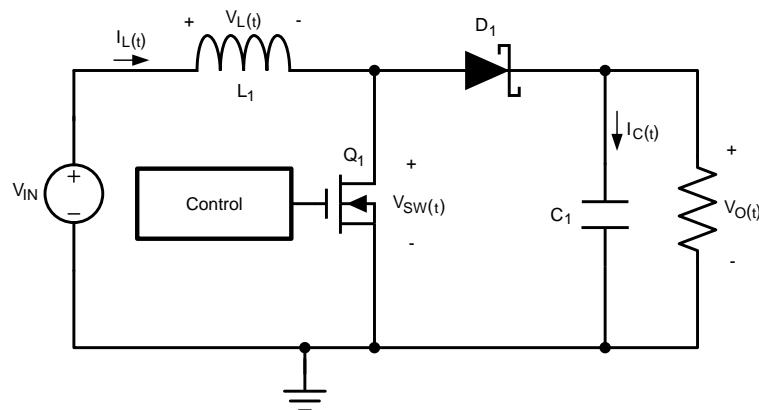

Figure 13. Simplified Schematic
The LM2735 is a constant-frequency PWM boost regulator IC that delivers a minimum of 2.1 A peak switch current. The regulator has a preset switching frequency of either 520 kHz or 1.6 MHz. This high frequency allows the device to operate with small surface mount capacitors and inductors, resulting in a DC-DC converter that requires a minimum amount of board space. The LM2735 is internally compensated, so it is simple to use, and requires few external components. The device uses current-mode control to regulate the output voltage. The following operating description of the LM2735 will refer to the simplified internal block diagram (Functional Block Diagram), the simplified schematic (Figure 13), and its associated waveforms (Figure 14). The LM2735 supplies a regulated output voltage by switching the internal NMOS control switch at constant frequency and variable duty cycle. A switching cycle begins at the falling edge of the reset pulse generated by the internal oscillator. When this pulse goes low, the output control logic turns on the internal NMOS control switch. During this on-time, the SW pin voltage (V_{SW}) decreases to approximately GND, and the inductor current (I_L) increases with a linear slope. I_L is measured by the current sense amplifier, which generates an output proportional to the switch current. The sensed signal is summed with the corrective ramp of the regulator and compared to the error amplifier's output, which is proportional to the difference between the feedback voltage and V_{REF} . When the PWM comparator output goes high, the output switch turns off until the next switching cycle begins. During the switch off-time, inductor current discharges through diode D1, which forces the SW pin to swing to the output voltage plus the forward voltage (V_D) of the diode. The regulator loop adjusts the duty cycle (D) to maintain a constant output voltage.